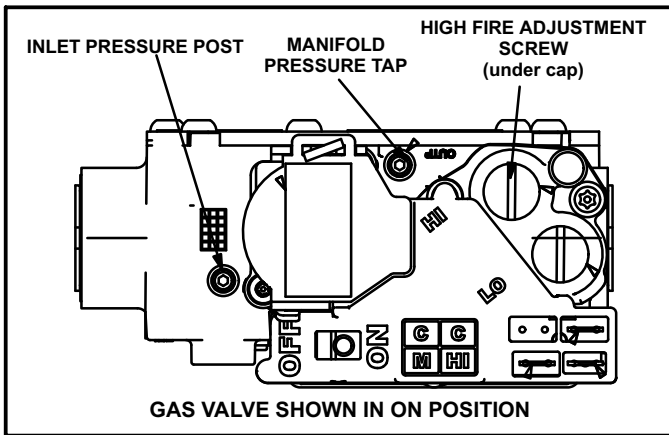

FIGURE 22
**Gas Valve Operation (Figure 22)**
- 6 - Move switch on gas valve to **OFF**. Do not force. See figure 22.
- 8 - Move switch on gas valve to **ON**. Do not force. See figure 22.
An inlet post located on the gas valve provides access to the supply pressure. See figure 22. Back out the 3/32 hex screw one turn, connect a piece of 5/16 tubing and connect to a manometer to measure supply pressure. See table 13 for supply line pressure.
- 1 - Connect test gauge to manifold pressure tap (figure 22) gas valve.
- 4 - If necessary, make adjustments. Figure 22 shows location of high fire adjustment screw.